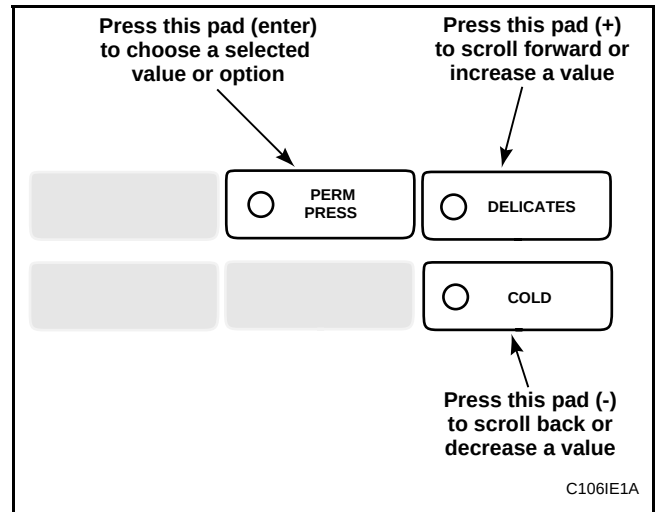

Figure 72
5. Press the DELICATES (+) or the COLD (-) keypad to increase or decrease the current three digit number to the desired three digit number. See **Figure 72**.